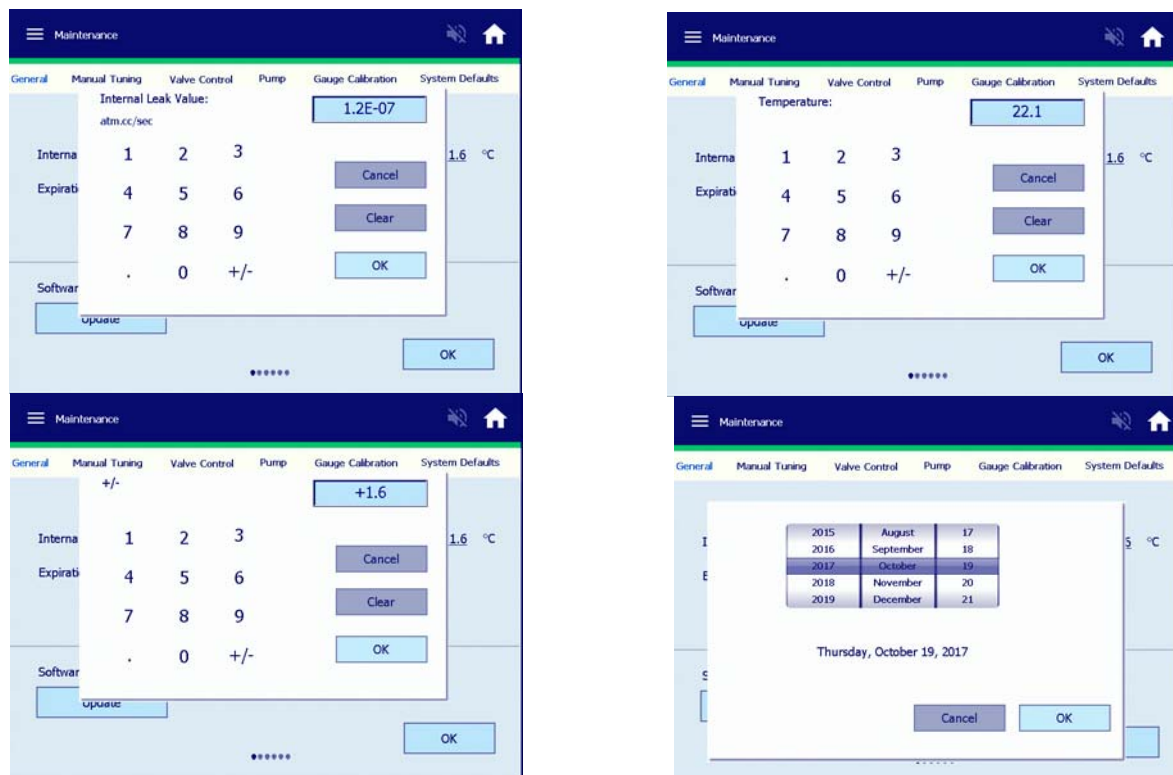

Figure 7-5 Internal Calibrated Leak Keypads
1. Press/tap the underlined/highlighted field to activate its associated keypad. A keypad appears (Figure 7-5).